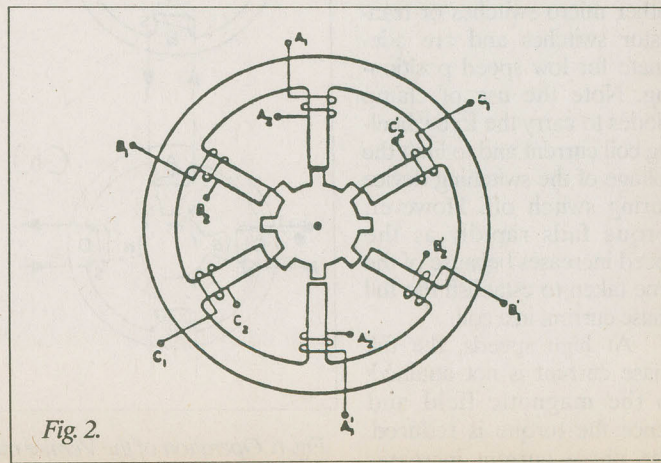

Fig. 2.
There are three types of electric step motors: the variable reluctance (VR) step motor, the permanent magnet (PM) step motor, and the hybrid step motor. These are described in order. A VR step motor is shown schematically in Fig. 2.
The VR step motor will operate with phase currents in either direction. Thus a minimum of three phase is required to establish reliable rotation characteristics. The three phases may supply three sets of coil wound on a single laminated stack as shown in Fig. 2. This configuration is known as a single stack VR step motor and it is commonly used in small low cost motors.